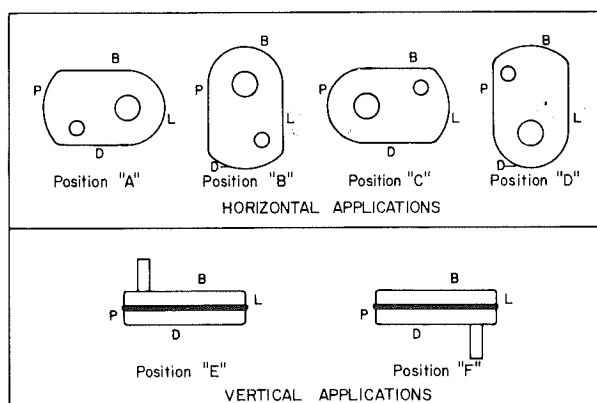

FIG. 1 — Mounting Positions
2. Determine the running positions of the reducer. (See Fig. 1) Note that the reducer is supplied with either 4 or 7 plugs; 4 around the sides for horizontal installations and 1 on each face for vertical installations. These plugs must be arranged relative to the running positions as follows:
The running position of the reducer in a horizontal application is not limited to the four positions shown in Figure 1. However, if running position is over 20° either way from sketches, the oil level plug cannot be safely used to check the oil level, unless during the checking the torque arm is disconnected and the reducer is swung to within 20° of the positions shown in Figure 1. Because of
† Refer to Fig. 1 on page 2 for mounting positions.
Note: If reducer position is to vary from those shown in Figure 1 either more or less oil may be required. Consult factory.